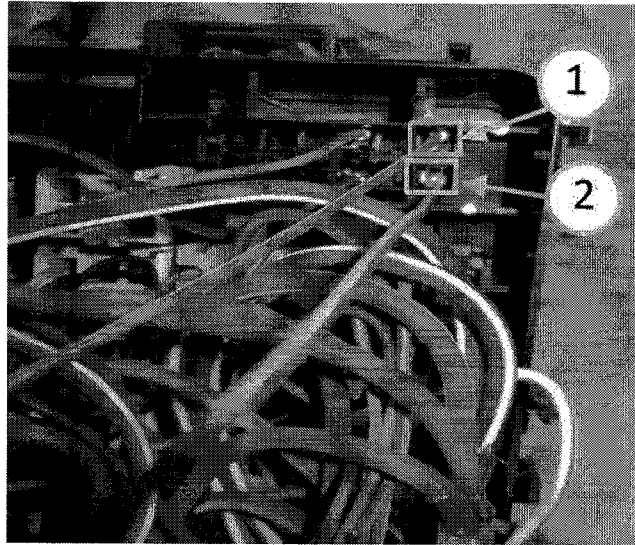

Fig. 4 New Circuit Location
13. Insert the terminal with wire color RD/LB with eyelet end provided in the repair kit into cavity number 53A of the PDC (Fig. 4).